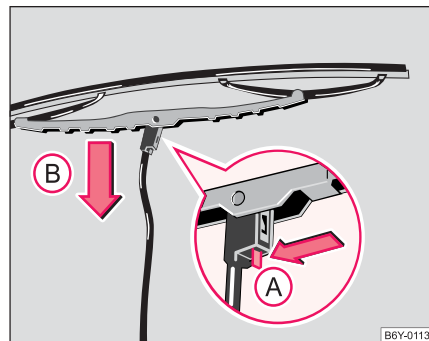

Fig. 40 Wiper blades for the windscreen
- Fold windscreen wiper arm away from the windscreen and position the wiper blade at right angles to the wiper arm ⇒ fig. 40.
- Press the securing spring in the direction of arrow ① and press the wiper blade at the same time in the direction of arrow ② ⇒ .